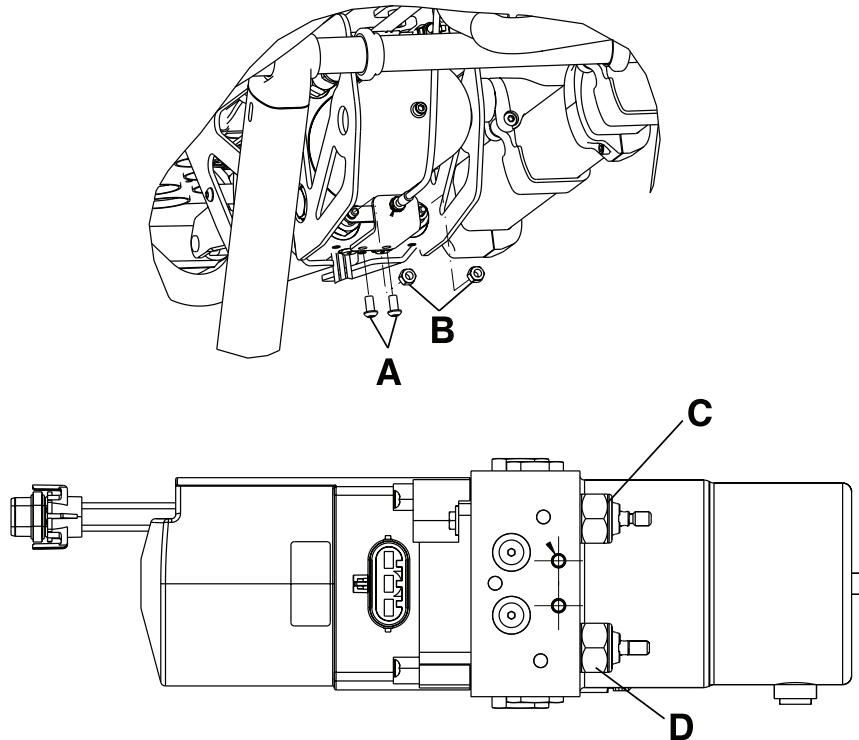

Figure 19: Hydraulic manual release valve
3. Using a T27 Torx driver, remove the two button head cap screws (A) that secure the manual release cable bracket to the bottom of the hydraulic subassembly. (Figure 19 on page 52).
5. Using a 7/16" combination wrench, remove the Nylock hex nut (B) from each of the valve stems. (Figure 19 on page 52).
6. Using a 7/8" hex wrench, remove the valve (C or D) to be replaced. (Figure 19 on page 52).